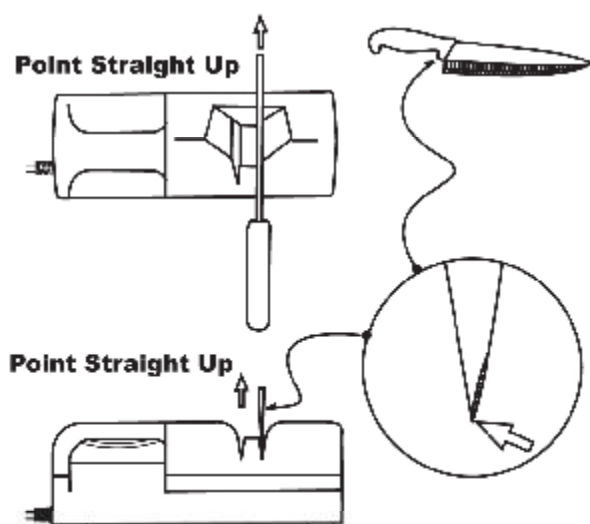

Fig. 6
- 6) Repeat the process in the right opening to sharpen the other side of the knife, see fig 6 (if the knife has only one sharpened edge, use only the one relevant opening). Continue alternating the process decreasing pressure with each pass until the knife feels sharp to the touch or slicing paper feels smooth. **(USE CAUTION - AVOID CUTTING YOURSELF)**. When **re-profiling the edge of a dull knife the process may take 10 or more passes depending on the condition and the blade temper.**